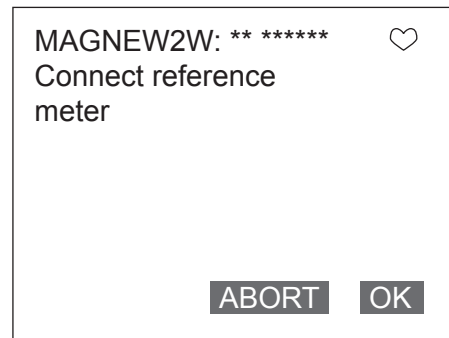

Fig. 7-60.
6. Fig. 7-60. will then appear. Please wait until the adjustment completes.